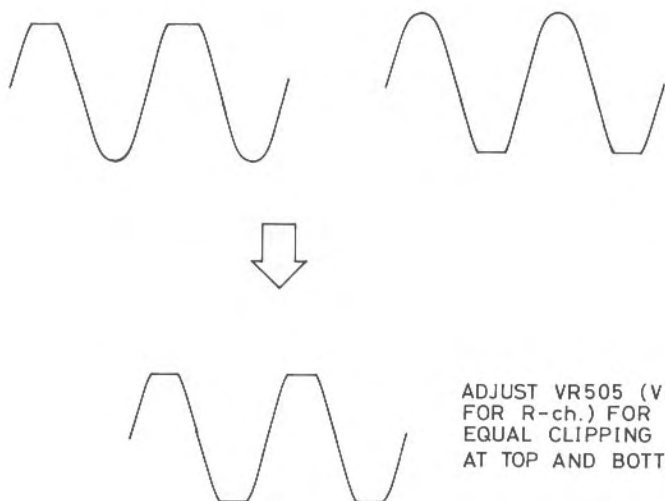

Figure 1
4. Connect AC power cord and rotate Volume Control clockwise — full volume. Increase generator output until sine wave on scope just starts clipping. Adjust DC Balance Control VR505 for equal clipping on the positive and negative half cycle of the signal — see Figure 1.